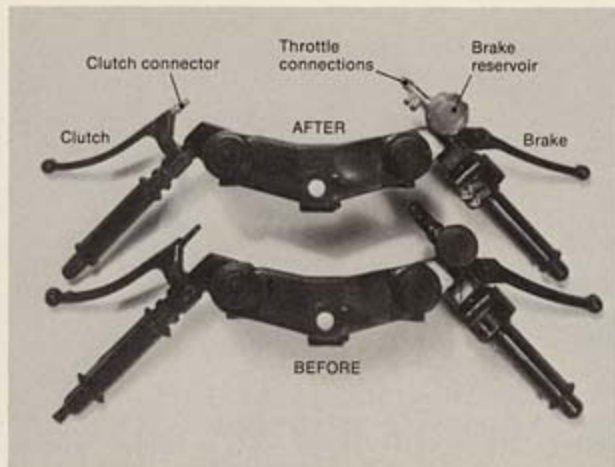

Fig. 4. The author's changes to the Suzuki headset give it a lighter, more precise appearance.
**Refining parts.** Figure 4 shows the headset (handlebars) of one of the Suzuki bikes before and after I added details to this plastic part, and Fig. 5 shows the brake master cylinder parts before they were added to the headset. None of the changes to the brake, clutch, and throttle assemblies was dif-